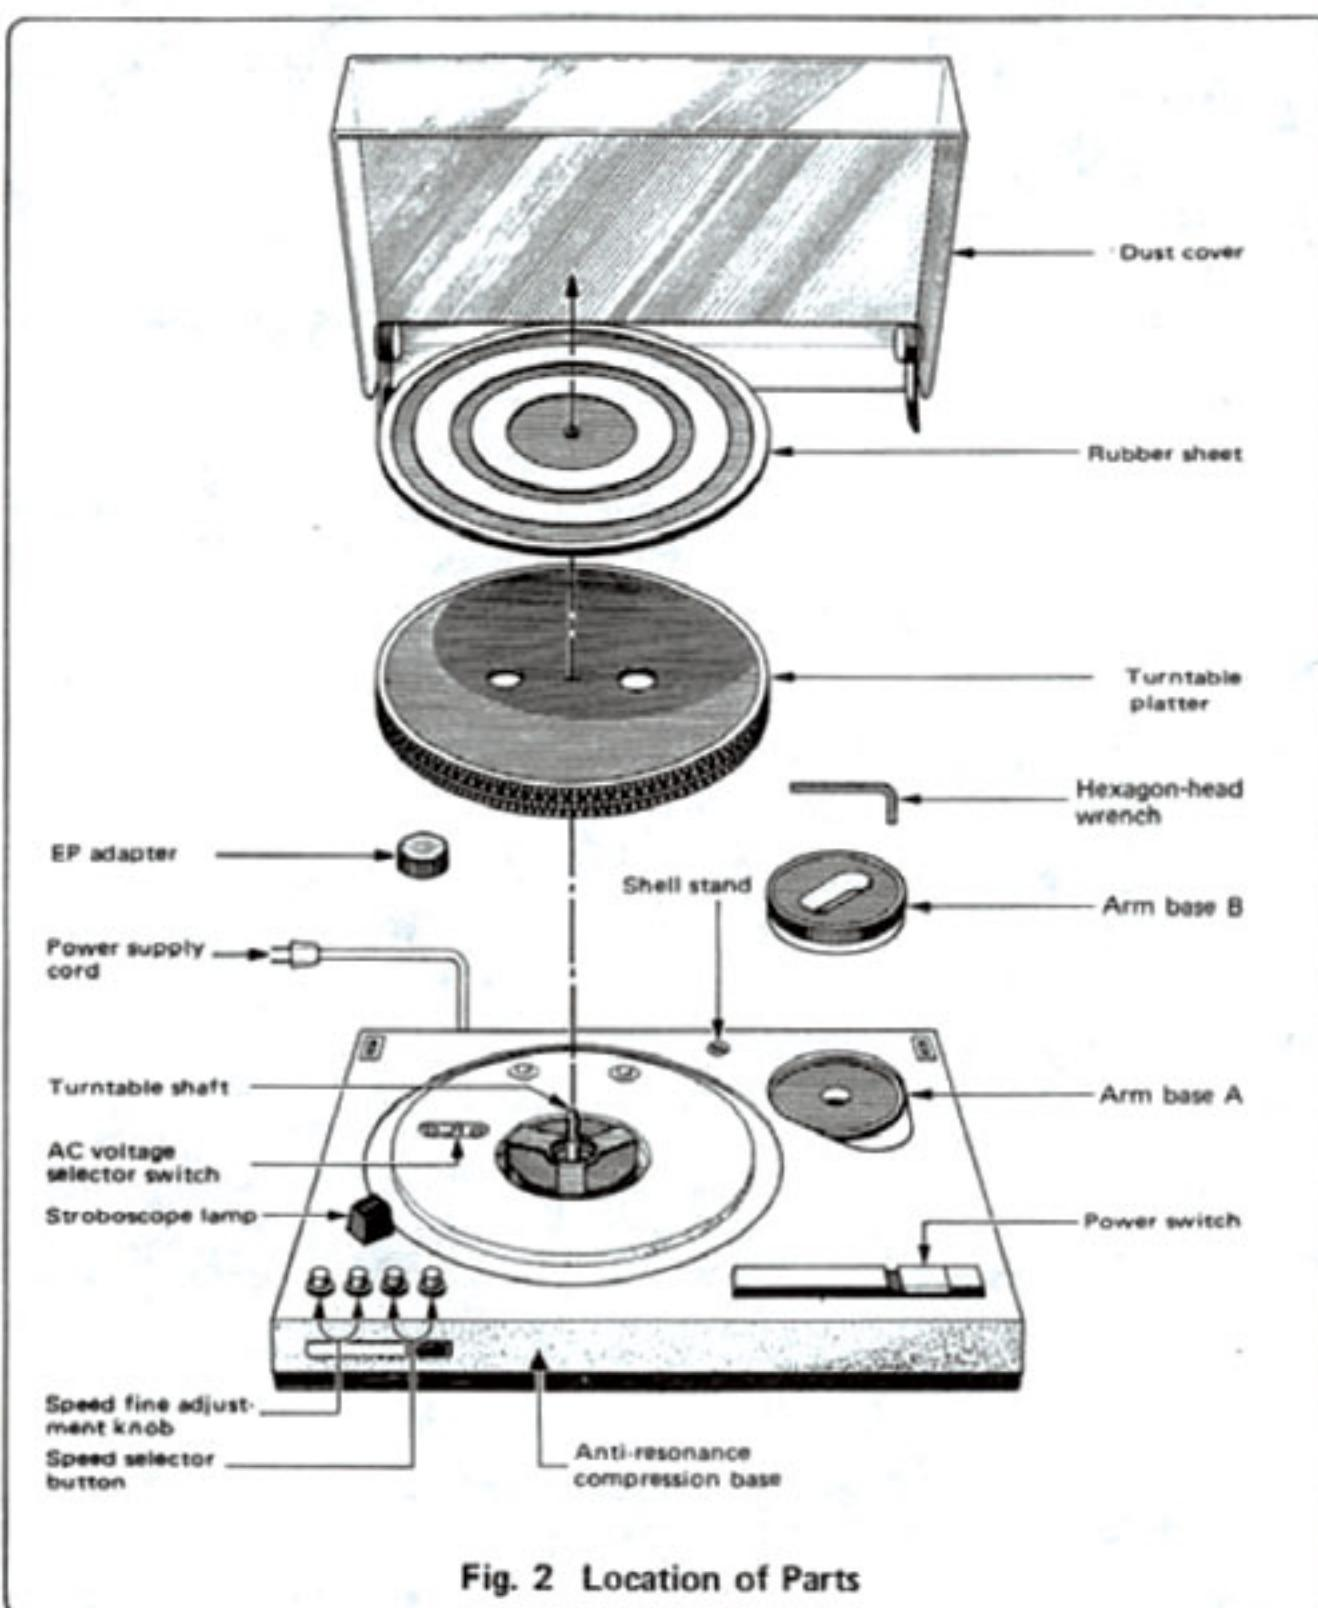

Fig. 2 Location of Parts
1. Refer to Fig. 2 and confirm that all parts are correctly furnished. (Fig. 2: Location of Parts)